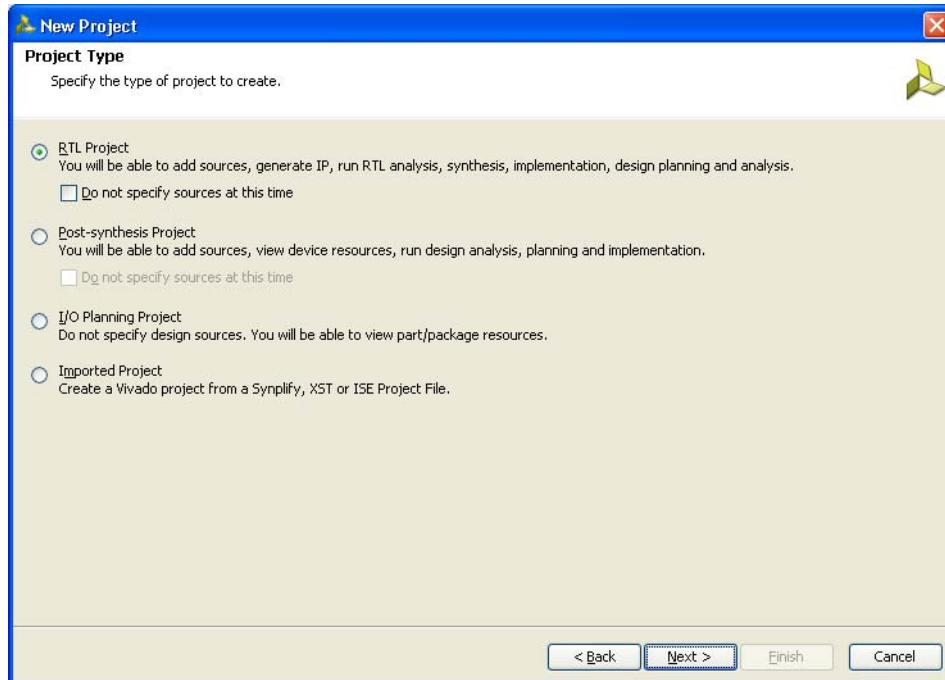

Figure 4-4: Project Type
- Click **Next** to proceed to the Project Type page (Figure 4-4). Select the Project Type as RTL Project because MIG deliverables are RTL files.